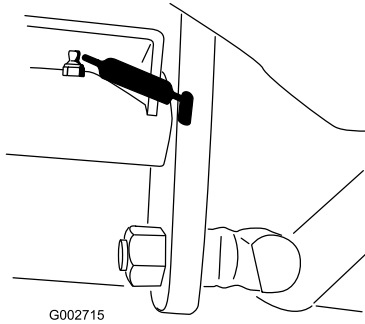

Figure 24
- Traction-pedal pivot (1) (Figure 24)